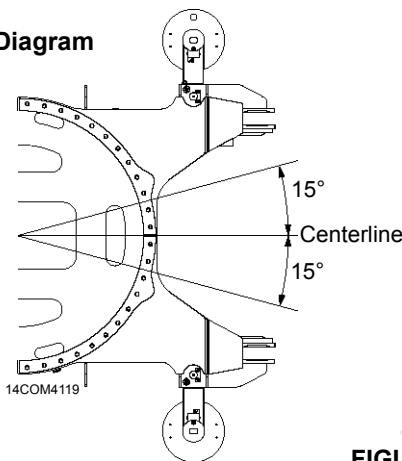

FIGURE 4-27
- Do not swing 15° either side of center (Figure 4-27)